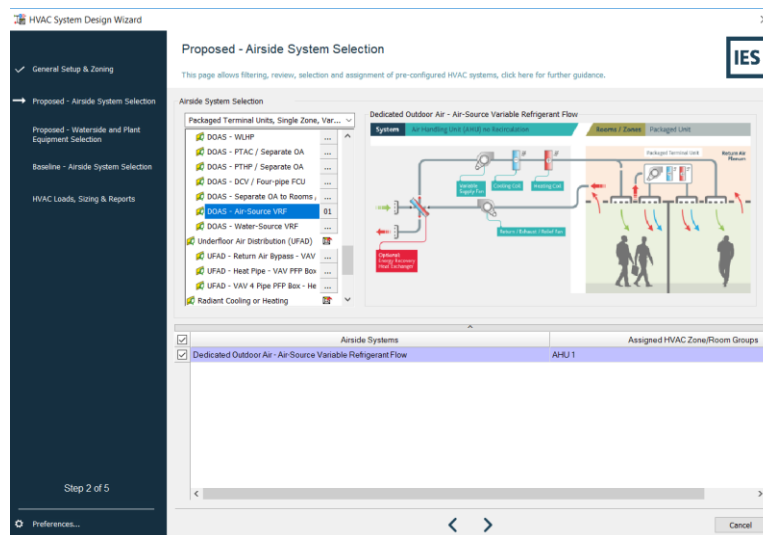

Figure 4: HVAC System Design Wizard (Proposed-Airside System Selection)
- Select Air-source VRF or Water-Source VRF (Figure 4)